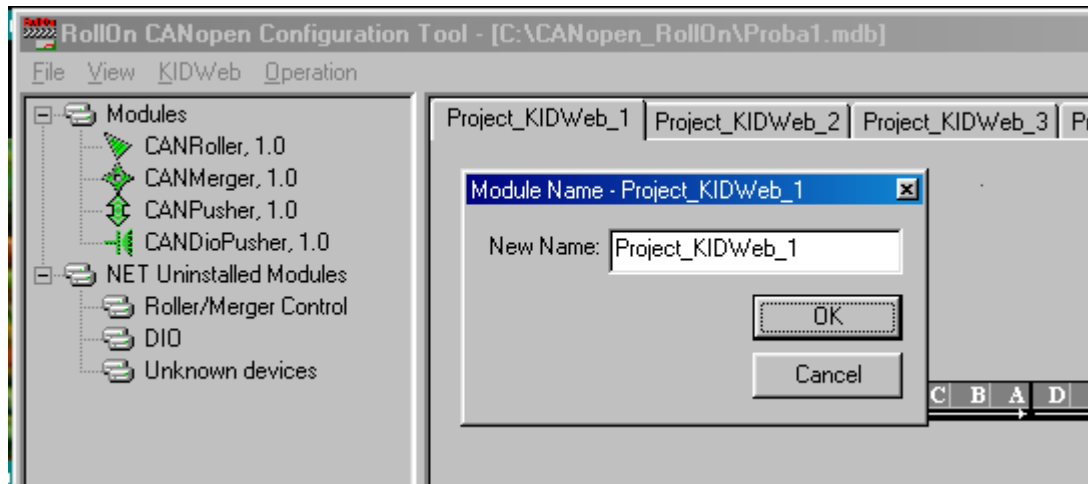

Fig. 4.32
- Click on **Rename** box to open the **Module Name - Project_KIDWeb_1** dialog box shown in Fig. 4.32.